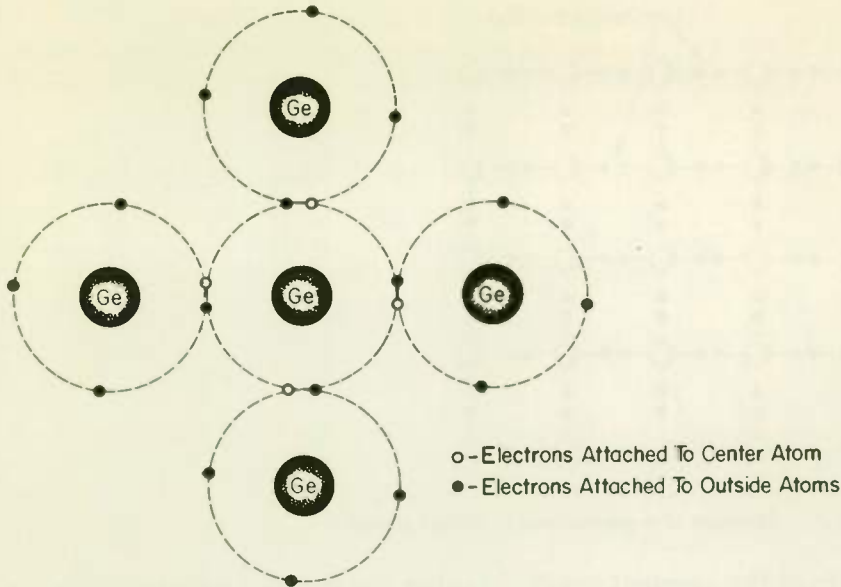
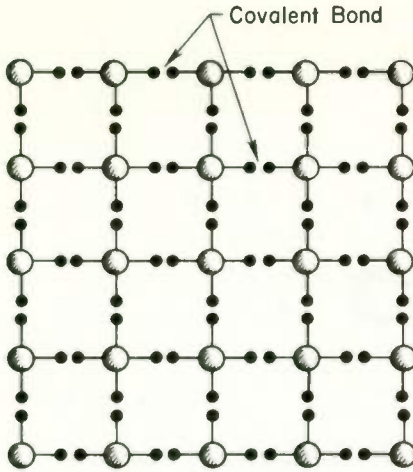

Fig. 6 Covalence in germanium. Only the valence ring of electrons is shown for each atom.
Fig. 7 Structure of a germanium or silicon crystal.
A silicon or germanium atom will try to fill up its outer orbit by adding additional electrons until there are (73) _____ electrons in its outer orbit. This is done by covalence as shown in Fig. 6. In this figure and hereafter we show only the outer shell of electrons, because the inner shells do not play an active part in semiconductor action, and therefore need not be considered. Each of the four outside atoms shares
(67) low; (68) high; (69) many; (70) free electrons; (71) many; (72) free electrons; (73) 8;
its electrons with the center atom, but without any of the electrons becoming detached from their own orbit. Thus the center atom has eight electrons associated with its outer shell. Nearly every atom within a piece of pure germanium or silicon is within the center of four other atoms to which it is bound with covalent bonds as in Fig. 6. This is shown in Fig. 7, where the black dots are the outer orbit electrons, and the line between each electron and a nucleus means that that electron is attached to that nucleus. Two electrons close together (paired electrons) means that they are shared by the associated nuclei. A set of paired electrons form a covalent bond. Because of the sharing of electrons, each atom has the use of eight electrons in its valence ring.